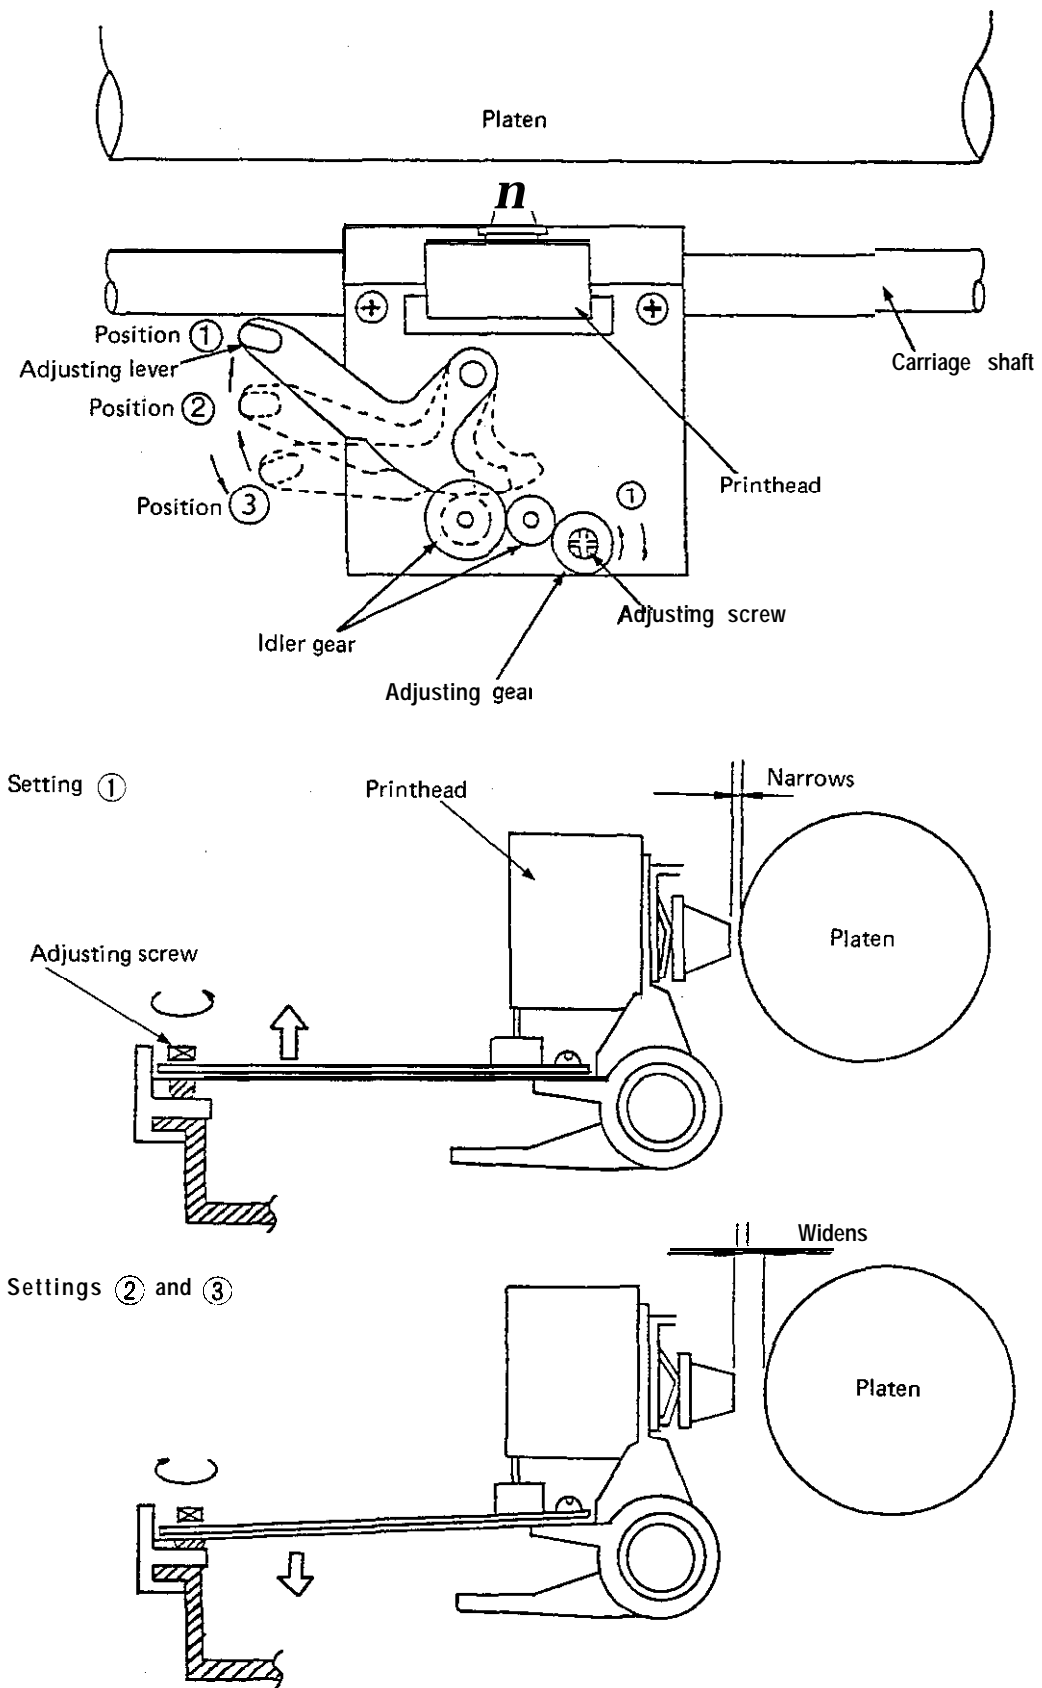

Figure 3-5
3.2.3 Head gap adjustment mechanism (See Figure 3-5.)